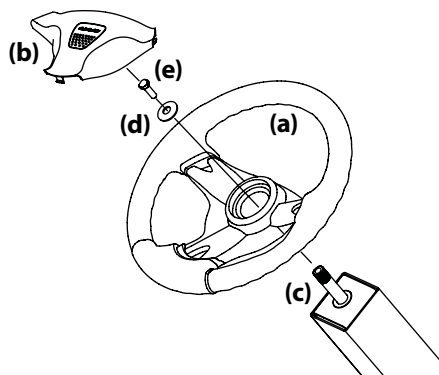

Figure 6
1. Remove the hardware for attaching the steering wheel (a) from beneath the steering wheel cover (b). Carefully pry off the steering wheel cover (b) to remove the hardware. See Figure 6.
2. With the wheels of the tractor pointing straight forward, place the steering wheel (a) over the steering shaft (c). See Figure 6.
3. Place the belleville washer (d) over the steering wheel (a) and secure with the hex screw (e). See Figure 6.
4. Place the steering wheel cover (b) over the center of the steering wheel (a) and push downward until it "clicks" into place. See Figure 6.